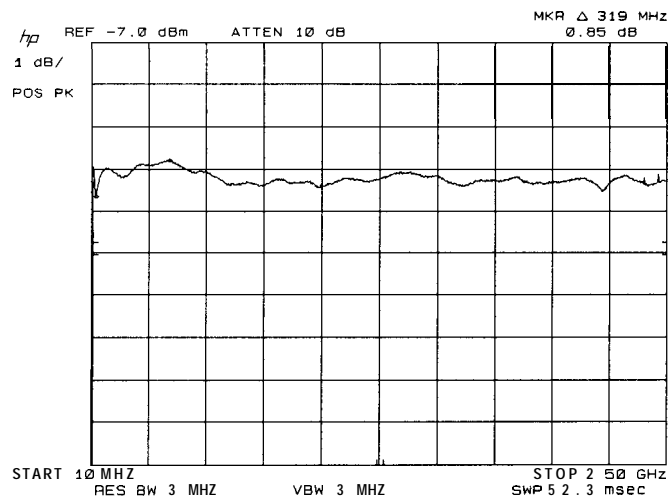

Figure 3-93.
38. On the synthesized sweeper, press SWEEP (SINGLE) and wait for a sweep to complete (150 seconds) and the SWEEP LED to turn off. As the synthesized sweeper tunes from 10 MHz to 2.5 GHz, the input signal should be displayed as a TRACE A response, and the spectrum analyzer frequency response should be displayed as TRACE B, as shown in Figure 3-93.